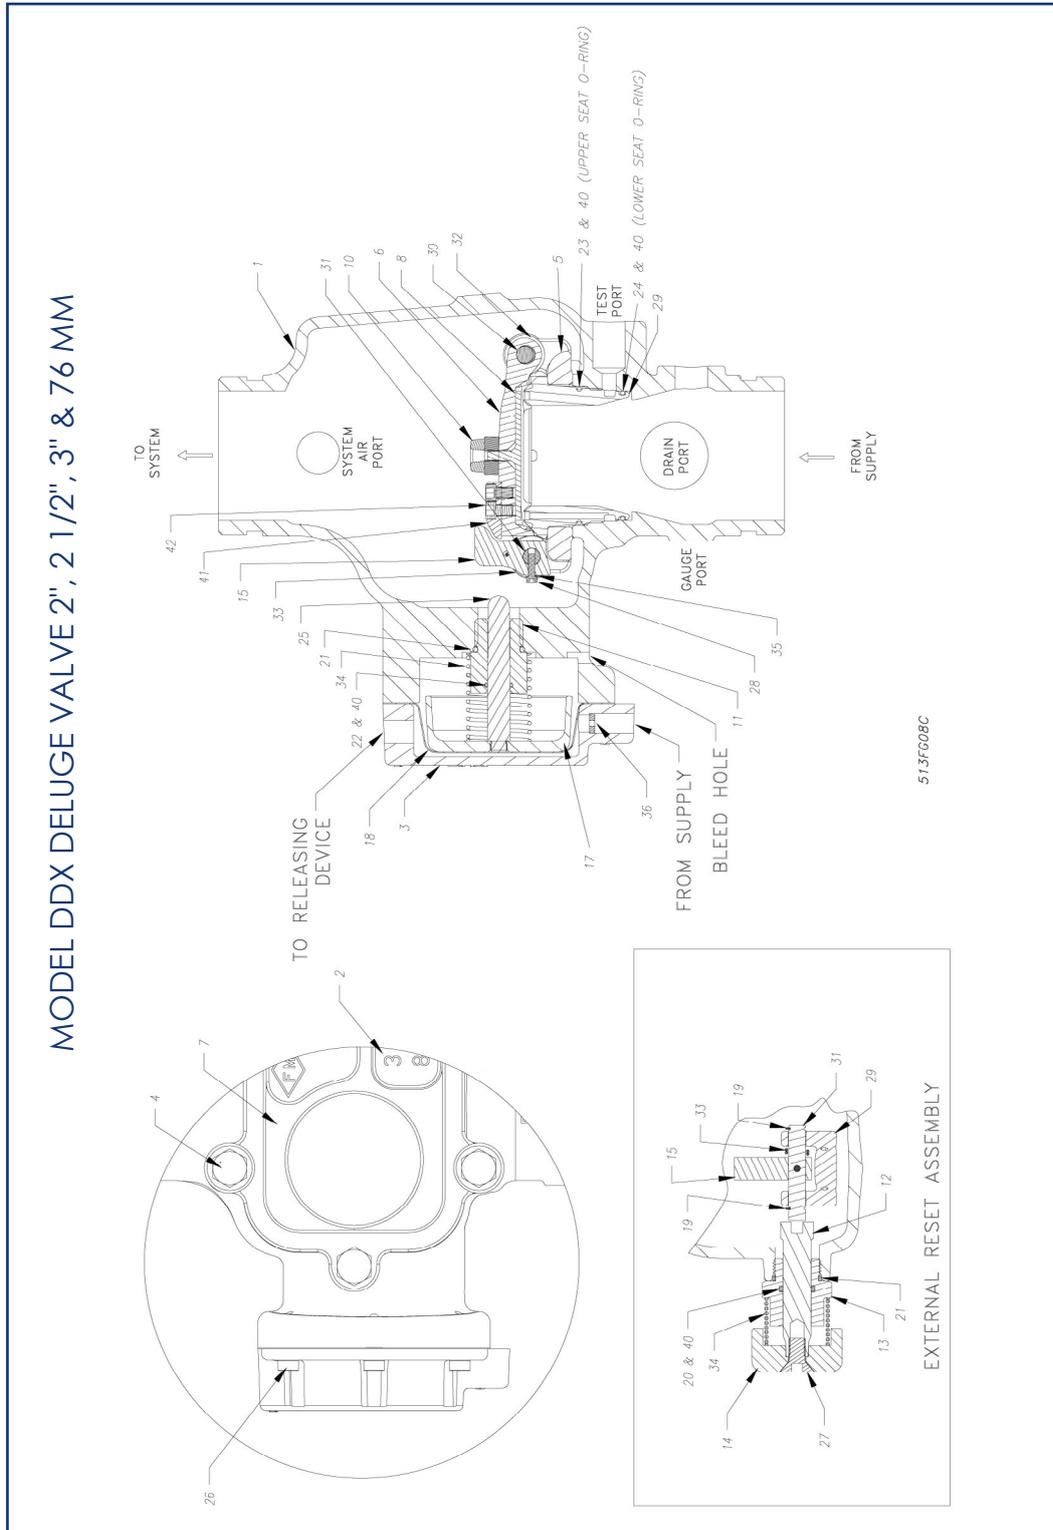
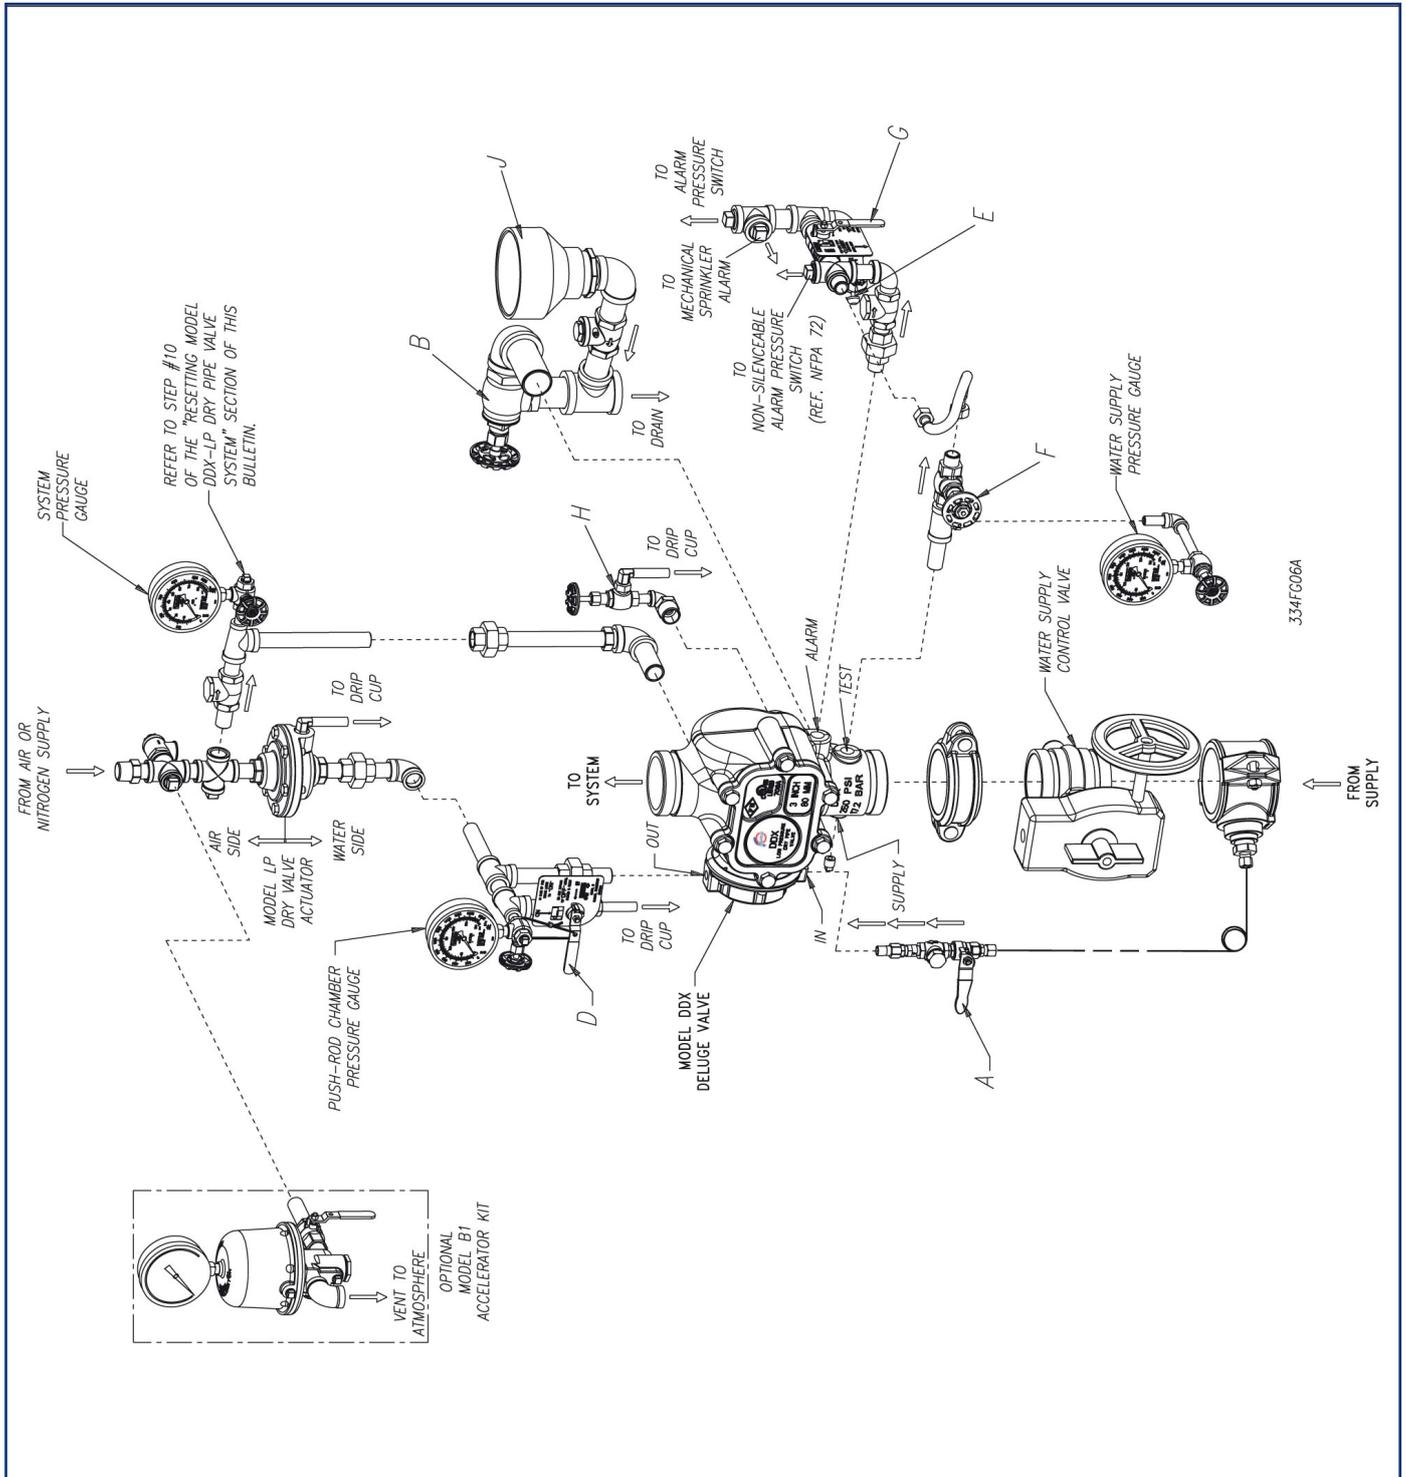

Fig.5
Fig. 6
1. Close the main valve controlling water supply (Fig. 6) to the Dry Pipe Valve and close off the air/nitrogen supply to the sprinkler system.
2. Close the push rod chamber supply valve, valve A (Fig. 6).
3. Open the main drain valve, valve B (Fig. 6), and drain system.
5. With valve F (Fig. 6) open, push in the plunger of ball drip valve, valve G (Fig. 6), to force the ball from its seat, and drain any water in the alarm line.
6. With the Model B Manual Emergency Station, valve D (Fig. 6), open, push in and rotate the Model DDX-LP's reset knob (#14, Fig. 5) clockwise until you hear a distinct clicking noise, indicating that the clapper has closed.
8. Open valve A (Fig. 6) and allow water to fill the Dry Pipe Valve's push rod chamber.
9. Bleed all air from the actuation piping by allowing a steady stream of water to flow through the Model B Manual Emergency Station, valve D (Fig. 6). After all trapped air is released, close valve D. Water should still be coming out of the Model LP Dry Valve Actuator (Fig. 6).
10. Close valve F (Fig. 6). Rapidly apply compressed air or nitrogen into the Model LP Dry Valve Actuator and the system until the pressure conforms to Table A levels, as indicated on the air pressure gauge (Fig. 6).
Note: It may be necessary to temporarily close the main drain valve B (Fig. 6) in order to build sufficient air pressure to "set up" the Model LP Actuator. Once the Model LP Actuator is "set up", the main drain valve B (Fig. 6) should be reopened and the remaining procedure followed.
The Model LP Dry Valve Actuator will close during this pressurizing process and the water will stop flowing into the drip cup. At this point, the pressure gauge which indicates push-rod chamber pressure (Fig. 6) will equalize to the available water supply pressure.
Note: It may be necessary to isolate the system pressure gauge (Fig. 6) in the supply line to the Model LP Dry Valve Actuator during system set-up by closing the 1/4" 3-way valve (#59, Fig. 2). During set-up, pressure fluctuations can occur that are potentially damaging to the gauge. Once the Model LP Dry Valve Actuator is reset accordingly, the air pressure gauge's 3-way valve (#59, Fig. 2) may be re-opened.
12. Open Valve F (Fig. 6). Open slightly the main valve controlling water supply (Fig. 6) to the Model DDX-LP Dry Pipe Valve, closing drain valve B (Fig. 6) when water flows. Observe if water leaks through the ball drip valve, valve G (Fig. 6), into the drip cup, H (Fig. 6). If no leak occurs, the Dry Pipe Valve's clapper is sealed. Open slowly, and verify that the main valve controlling water supply is fully open and properly monitored.
13. Verify that valve A (Fig. 6) and valve F (Fig. 6) are open.
14. Secure the handle of the Model B Manual Emergency Station, valve D (Fig. 6), in the OFF position with a nylon tie (#56, Fig. 2).
2. Alarm line—be sure that valve G (Fig. 6) is opened and remains in this position.
3. Other trimming valves — check that valve A (Fig. 6) is open as well as all of the pressure gauge's 1/4" 3-way valves. Valves D, H, and F (Fig. 6) should be closed.
4. Ball drip valve G (Fig. 6)—make sure valve G (Fig. 6) is open. Push in on the plunger to be sure the ball check is off its seat. If no water appears, the Dry Pipe Valve's water seat is tight. Inspect the bleed hole (see Fig. 5) on the underside of the push rod chamber for leakage.
5. System pneumatic pressure — check air pressure gauge (Fig. 6) and water supply pressure gauge (Fig. 6) for conformance to Table A.
6. Model LP Dry Valve Actuator (Fig. 6) — Verify that the outlet is not leaking water. Check the air pressure gauge (Fig. 6) for proper pressure setting. Verify that the tubing line from the Actuator is not pinched or crushed, which could prevent proper operation of the Dry Pipe Valve.
7. Testing alarms — make sure valve G (Fig. 6) is open. Open valve F (Fig. 6) permitting water from the supply to flow to the electric sprinkler alarm switch and to the mechanical sprinkler alarm (water motor). After testing, close this valve securely. Push in on the plunger of ball drip valve E (Fig. 6) until all of the water has drained from the alarm line.
8. Operational test — Open the Model B Manual Emergency Station, valve D (Fig. 6). Note: An operational test will cause the Dry Pipe Valve to open and flow water into the sprinkler system.
9. Secure Model B Manual Emergency Station, valve D (Fig. 6), in the OFF position with a nylon tie (#56, Fig. 2) after the Dry Pipe Valve is reset.
Refer to Fig. 6
2. Leakage out of the ball drip valve E (Fig. 6).
- b. Leakage, air or water from the ball drip valve, E (Fig. 6): If system air is leaking out the ball drip valve, the problem is either damage to the airside of the Model DDX Dry Pipe Valve's seal face plate sub assembly (#8, Fig.5), seat (#29, Fig. 5), or the upper seat O-ring (#23, Fig.5). If supply water is leaking out the ball drip valve, the problem could be caused by damage to the Model DDX Dry Pipe Valve's seal faceplate sub-assembly (#8, Fig. 5), seat (#29, Fig. 5), or lower seat O-ring (#24, Fig. 5).
A) Shut down the valve controlling the water supply to the Dry Pipe Valve and open the 1 1/4" main drain valve B (Fig. 6). Open the water column drain valve H (Fig.6). Close the push rod chamber supply valve A (Fig.6) and open the Model B Manual Emergency Station D (Fig. 6). B) Remove the Dry Pipe Valve's front (handhold) cover (#7, Fig. 5) and inspect the seat (#29, Fig. 5), clapper (#6, Fig. 5), and seal faceplate sub assembly (#8, Fig. 5) for damage. If inspection indicates damage to the seal faceplate sub-assembly (#8, Fig. 5), replace as follows: Remove the bump stop nut sub assembly (#10, Fig. 5) and remove the seal assembly (#8, Fig. 5). Install a new seal assembly (#8, Fig. 5) and thread the bump stop nut (#10, Fig. 5) onto the threaded stud of the seal sub-assembly (#8, Fig. 5) and tighten finger tight plus 1/4 to 1/2 turn. If inspection indicates damage to the clapper (#6, Fig.5) only, then the clapper sub-assembly can be removed as follows: At the rear of the valve, disconnect the water column drain trim section starting with the elbow connector (#23, Fig. 2). Then remove the 1/4" angle valve (#61, Fig. 2), followed by the 3/4" x 1/4" reducing bushing (#5, Fig. 2). Remove the retaining ring (handhold cover side) from the clapper hinge pin (#30, Fig. 5) and push this pin through the water column drain line and remove the clapper sub assembly. Replace the seal sub-assembly as described previously. Inspect the clapper (#6, Fig. 5) visually before reinstalling. Reinstall in the reverse order making sure the clapper spacers are in their proper position. If the seat (#29, Fig. 5) is damaged or it is suspected that the leakage is through the lower O-ring (#24, Fig. 5), the seat-clapper subassembly is easily removed as a unit as follows: Using Seat Wrench, remove the seat by unscrewing. This will loosen the seat-clapper-mounting ring subassembly. Reach into the valve and grasp the seat-clapper sub assembly and remove it from the valve. Visually examine all components of the seat-clapper-mounting ring sub-assembly replacing any component that appears damaged. New O-rings (#23 & #24, Fig. 5) should always be used for reassembly.
- a) Shut down the valve controlling water supply to the Dry Pipe Valve. Relieve the inlet pressure by opening the 1 1/4" drain valve B (Fig. 6). Close the valve A (Fig. 6) that supplies water to the push rod chamber, and open the Model B Manual Emergency Station, valve D (Fig. 6).
Refer to Figs. 6 and 7
1. Close the main valve controlling water supply (Fig. 6) to the Dry Pipe Valve and close off the air/nitrogen supply to the sprinkler system. Close valve A (Fig. 6).
2. Drop pressure in the system by opening the 1/4" angle valve, valve H (Fig. 6.), and remove the Actuator from the system.